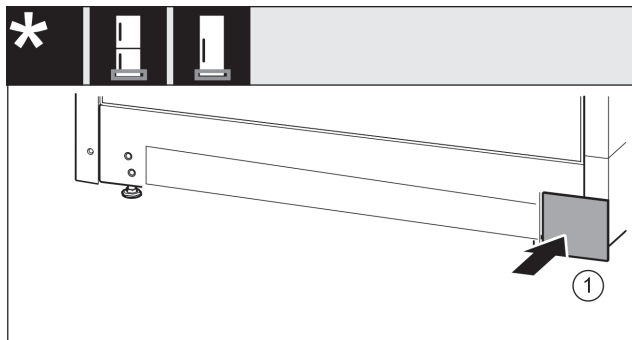

Fig. 20
- Re-attach the cover Fig. 20 (1) to the other side.